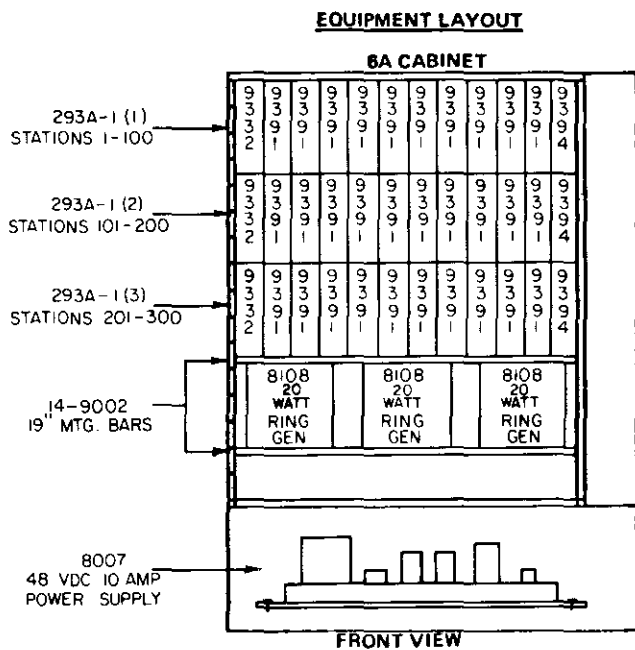
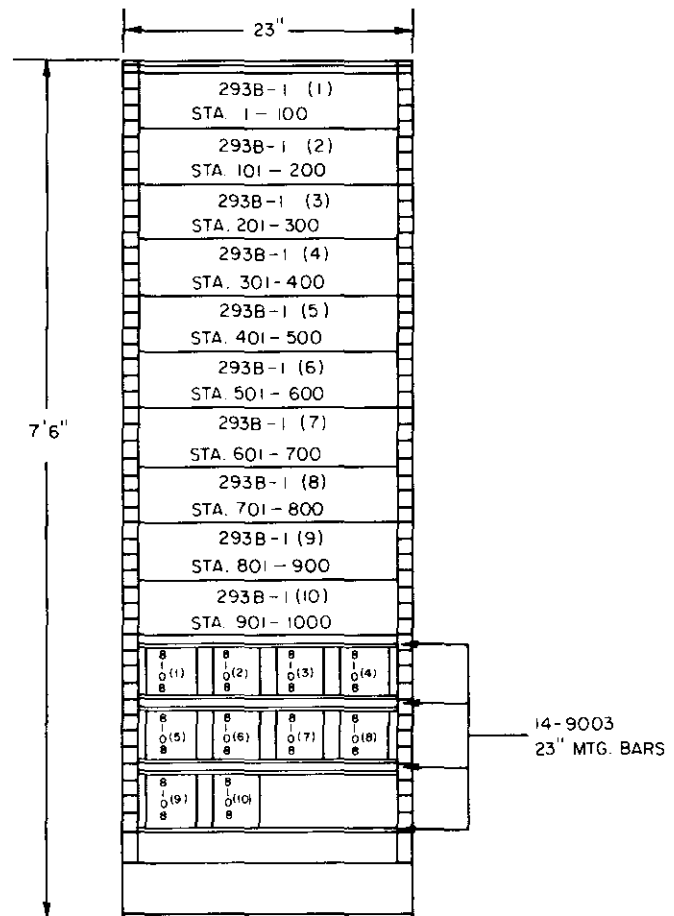

figure 8. Typical 300-line apparatus-case-mounted 293 System
figure 9. Typical 1000-line relay-rack-mounted 293 System
2.33 Larger 293 Systems are made up of additional 100-station increments (which make up a basic 293 System) with appropriate ringing generators and power supply. Figure 8 shows the equipment layout of a typical 300-line 293 System (minus the backup battery pack, recording device, and Activation Panel). Figure 9 shows the equipment layout of a typical 1000-line 293 System (minus the power supply, backup battery pack, recording device, and Activation Panel).